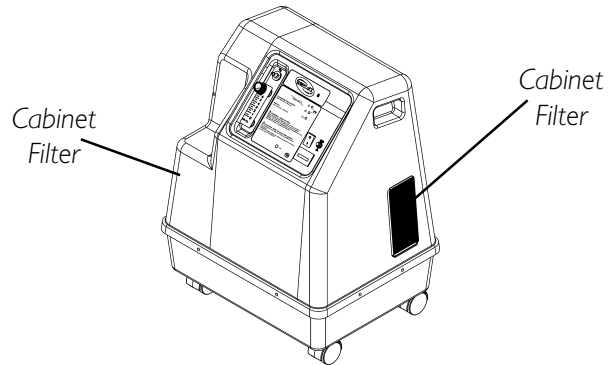

FIGURE 7 - CABINET FILTER LOCATION
NOTE: All concentrator Models have two (2) cabinet filters located on each side of the cabinet (FIGURE 7).